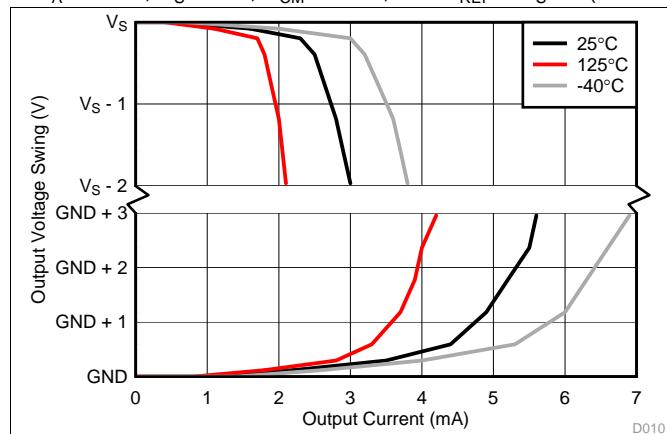

图 13. Output Voltage Swing vs Output Current
(1) See Figure 13.
(2) See the Input Signal Bandwidth section for more details.